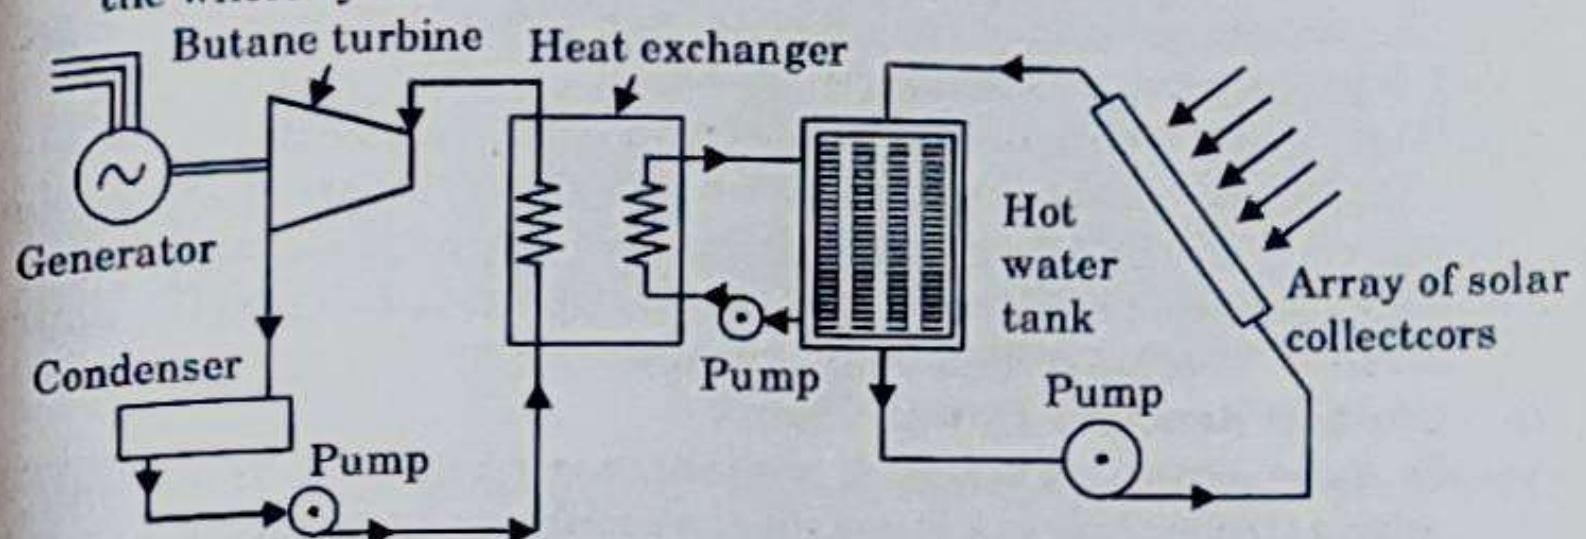

Fig. 2.18.1. Low temperature solar power plant.
1. A low temperature solar power plant uses flat-plate collector array as shown in Fig. 2.18.1.